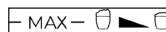

Fig. 4
- Set the frothed milk dispense control knob (10) to the middle position (fig. 4).